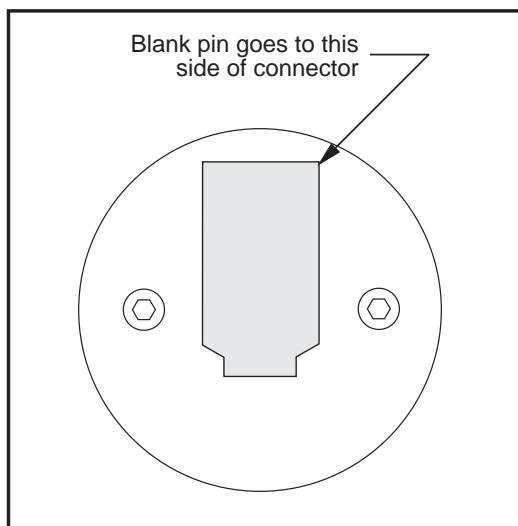

Figure 4.5-2. Jog handle encoder.
3. Unplug the cable leading to the jog handle encoder. **IMPORTANT!** The blank pin side of the connector must face as shown in Fig. 4.5-2 when reconnecting; otherwise, damage may occur to the machine.